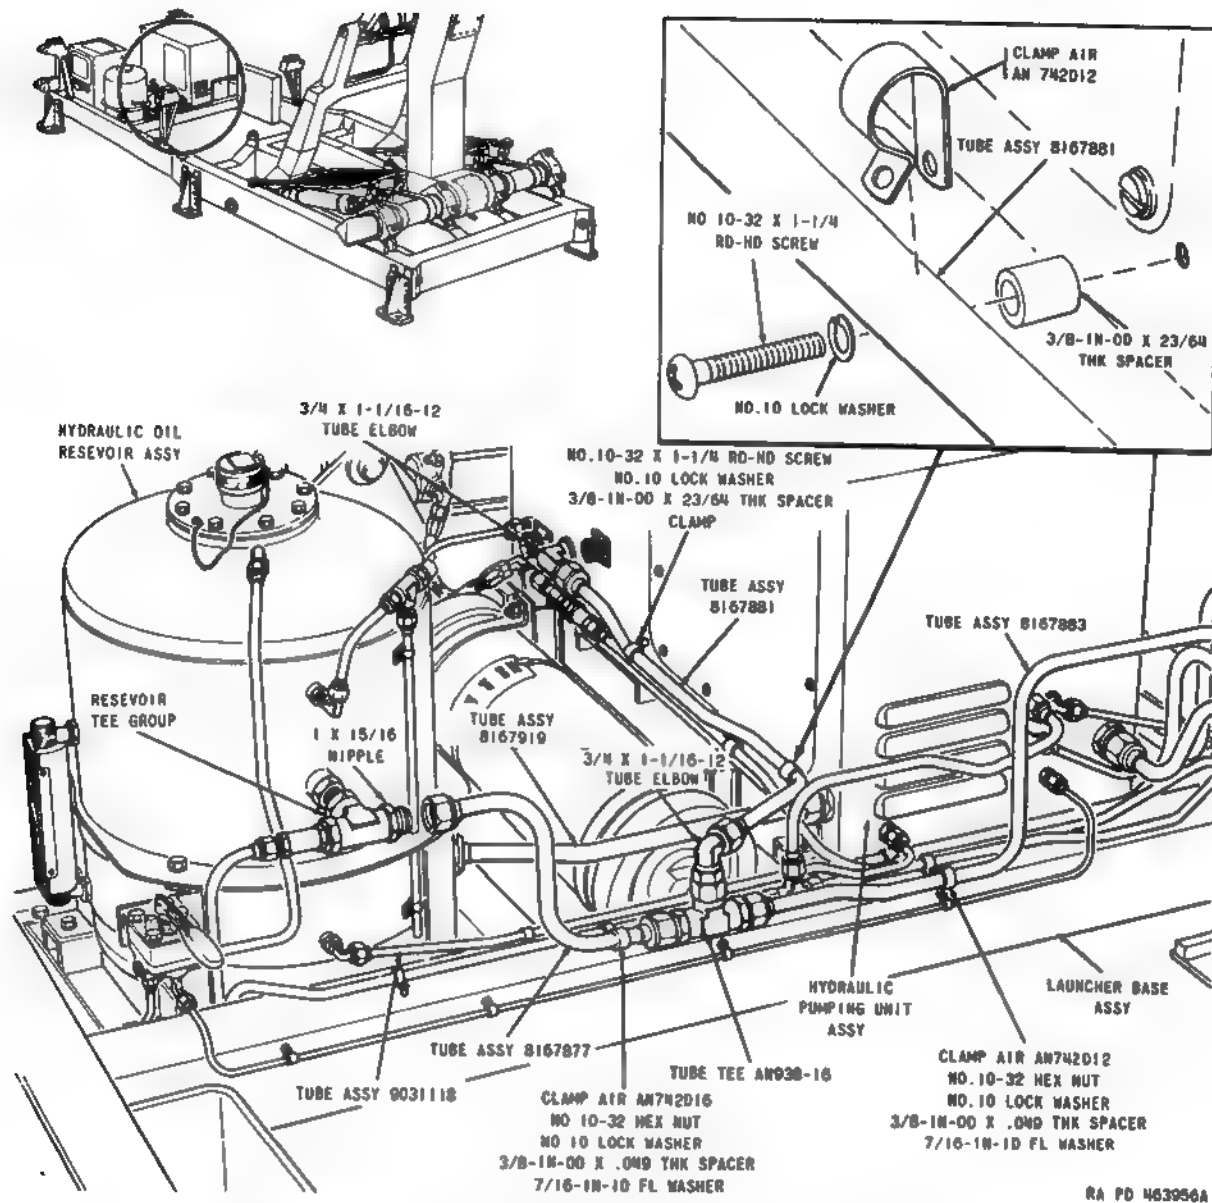

Figure 179. Axial pistons pump system hydraulic network — removal and installation.
The axial pistons pump system hydraulic network consists of four tube assemblies (fig. 179), hydraulic fittings, and clamps. Tube assembly 8167919 supplies hydraulic fluid to the hydraulic pumping unit assembly from the hydraulic oil reservoir assembly. Tube assemblies 8167881 and 8167877 carry return fluid from the pumping unit assembly to the reservoir assembly. Tube assembly 9031118 is the case drain return line (fig. 8) connecting the pumping unit assembly to the axial pistons pump.
- (3) Drain the hydraulic oil reservoir assembly by removing the drain plug as described in paragraph 82a.
- (4) Remove the tube assemblies (fig. 179), tube elbows, tube tee, and clamps; cap all open lines.